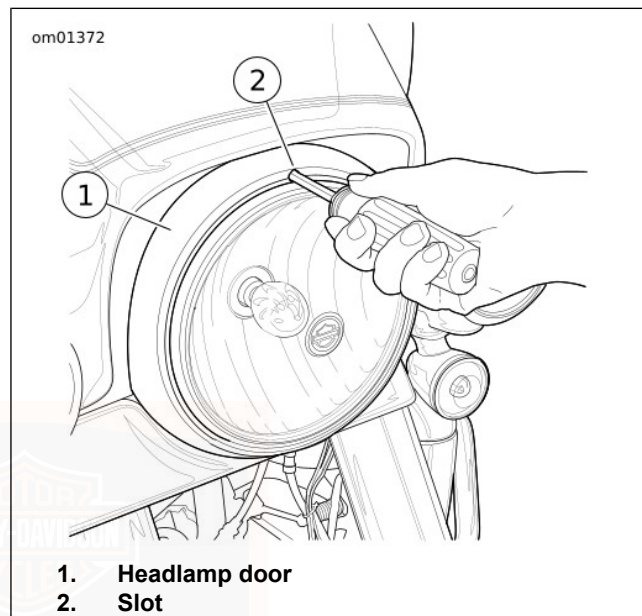

Figure 63. Headlamp Door
1. See Figure 63. Insert Phillips screwdriver between headlamp housing and rubber gasket.